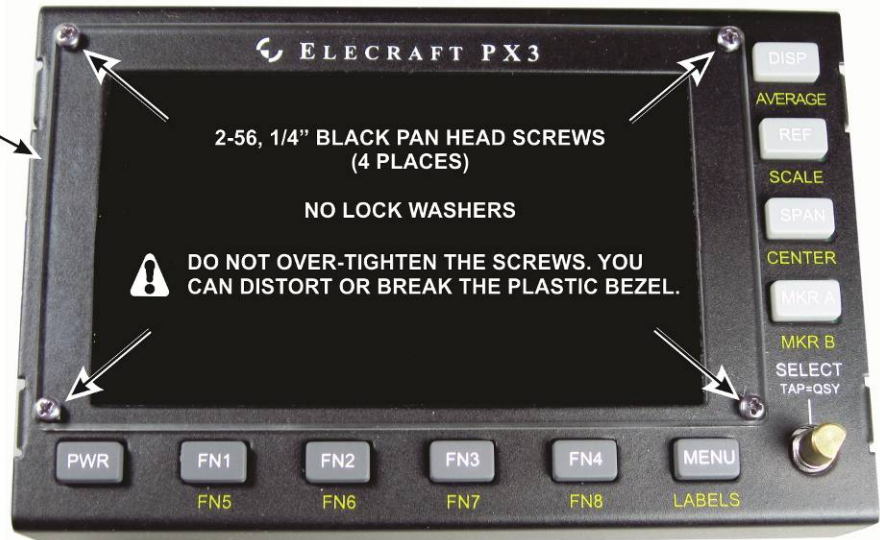
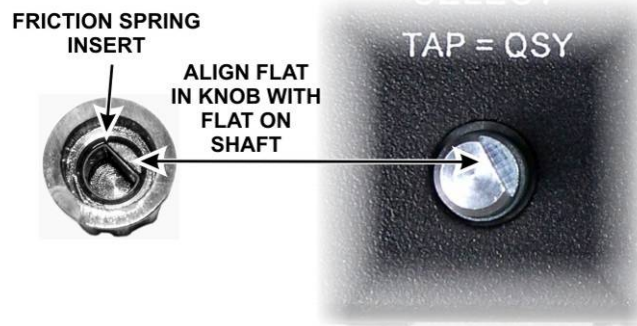

Figure 31. PC Board and Bezel Mounted on Front Panel.
Figure 32. Installing the Knob.
□ Hold the front panel board face up so the LCD does not become dislodged and place the front panel sheet metal and bezel over it as shown in Figure 31. Insert the front panel board from the back of the sheet metal, angling it as needed to fit past the narrow part of the panel. Place the bezel on top of the front panel sheet metal and secure it as shown, threading the screws through the bezel, top cover and into the standoffs you installed earlier on the front panel board. Do not use lock washers. **Do not over-tighten the screws. You can distort or break the bezel.**
□ Check to ensure the knob has its spring insert in place, then press it onto the shaft. Be sure the flat on the shaft is aligned with the flat surface in the knob (see Figure 32). The control has a built-in switch so do not be surprised to hear a click when you press the knob onto the shaft. The knob will stand above the surface of the front panel to allow room for the knob to move when operating the switch. Also, some side-to-side movement of the knob is normal in a control of this type with a built in switch.
! **If the connectors do not like up with the holes as shown, be sure you mounted the plastic bezel on the outside of the front panel as shown in Figure 31 on page 45.**
To remove the front panel board and gain access to the LCD, remove the knob (see Figure 32 on page 45) and the four screws on the plastic bezel (Figure 31). That will free both the front panel board assembly and the plastic bezel. Take care not to scratch the bezel or lose the screws. You will need to tilt the front panel board assembly to remove it from the front panel sheet metal.